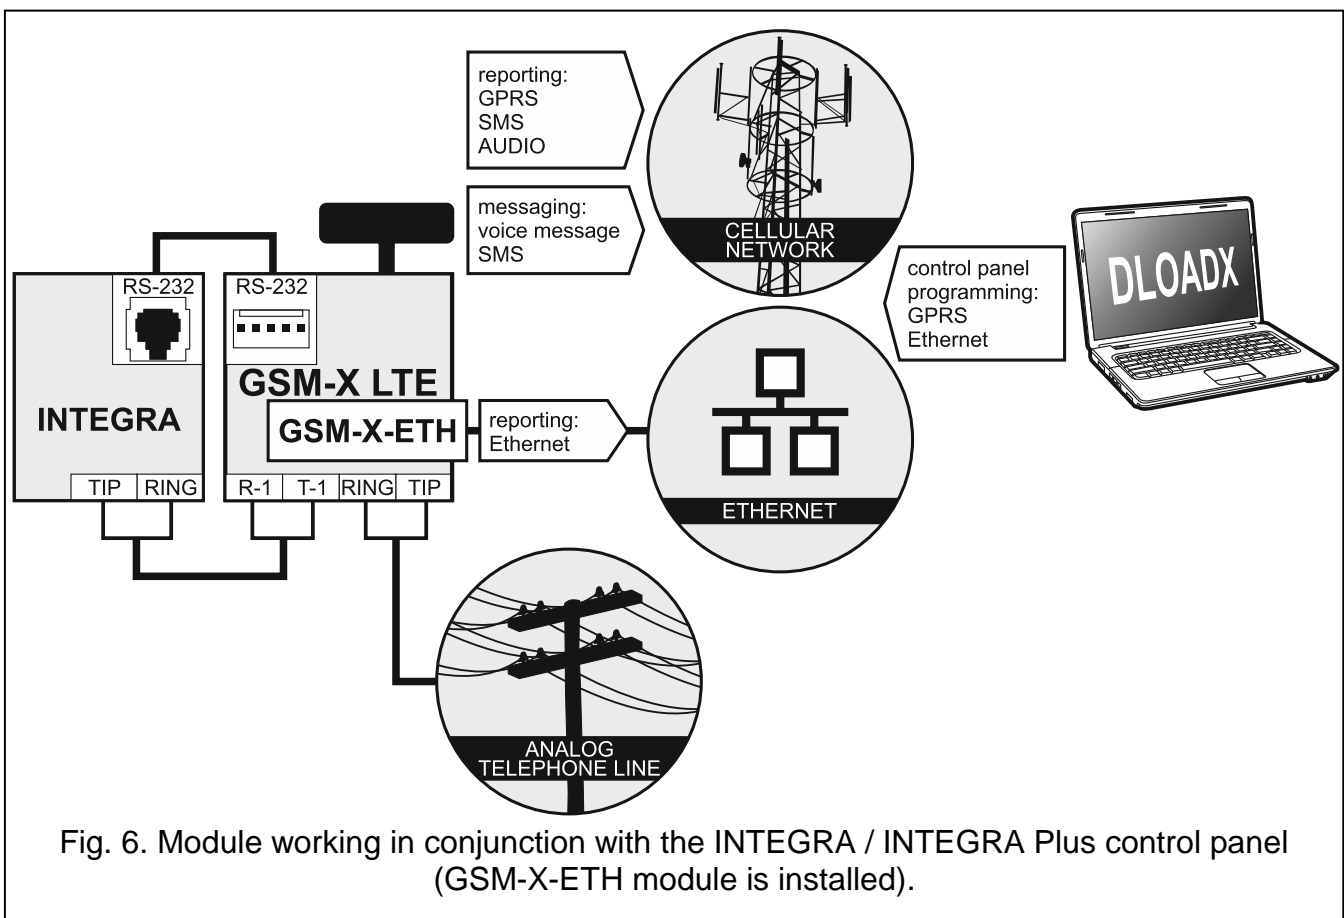
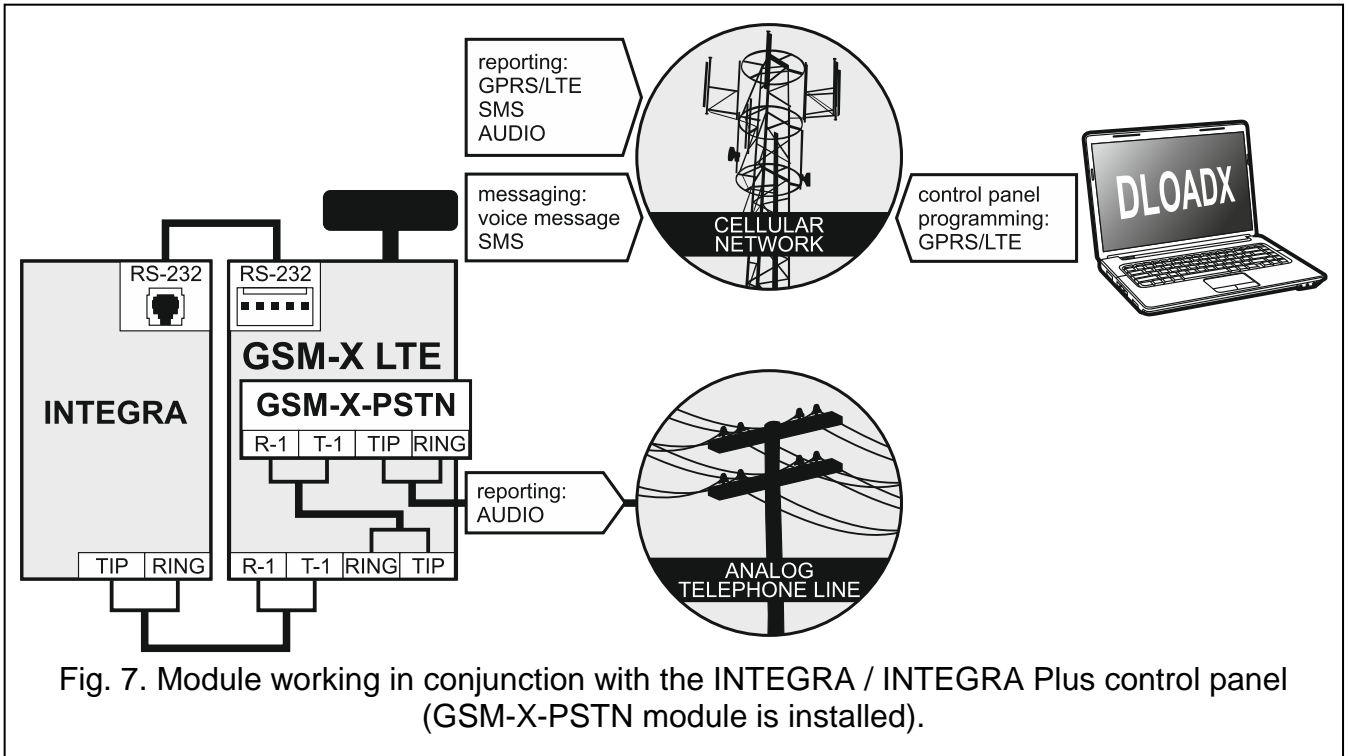

Fig. 6. Module working in conjunction with the INTEGRA / INTEGRA Plus control panel (GSM-X-ETH module is installed).
Fig. 7. Module working in conjunction with the INTEGRA / INTEGRA Plus control panel (GSM-X-PSTN module is installed).
- transmission of event codes to the monitoring station via cellular or, optionally, Ethernet network (if GSM-X-ETH module is installed – Fig. 6) / PSTN network (if GSM-X-PSTN module is installed – Fig. 7),